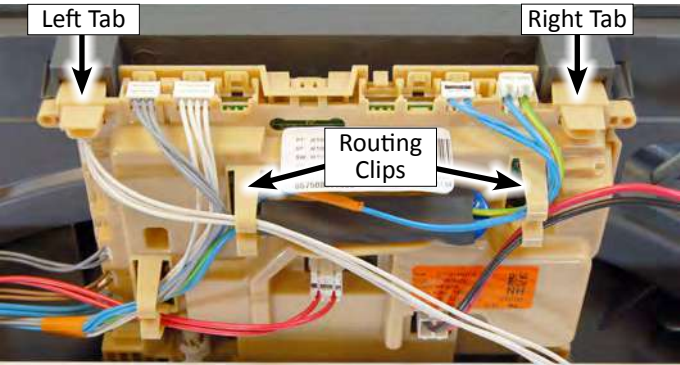

Figure 1
- 3. Disconnect all connectors from the ACU and remove the harnesses from the routing clips. See Figure 1.
- 4. Depress the top right and left tabs to release ACU from the front bulkhead. See Figure 1.